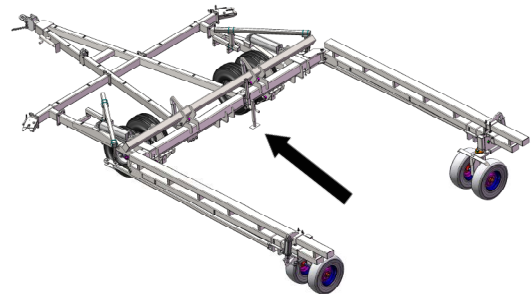

Figure 4. Jack in field / transport position (UP)
14. Raise all parking stands into upper position. Install pin through parking stand and bracket as shown in Figure 4.